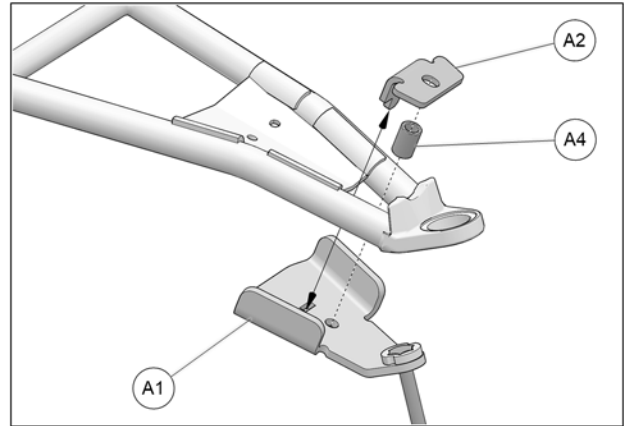

Fig. 18
5. Position bottom part of anchor bracket (A1) under lower suspension arm. Place bracket cover (A2) over suspension arm; and bushing (A4) in between cover and bottom of bracket set. Insert tenon in mortise cut in bottom part. See Fig. 18